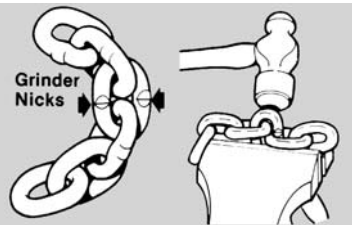

Figure 17. Cutting Chain by nicking
- Use a grinder and nick the link on both sides (Figure 17), then secure the link in a vise and break off with a hammer.